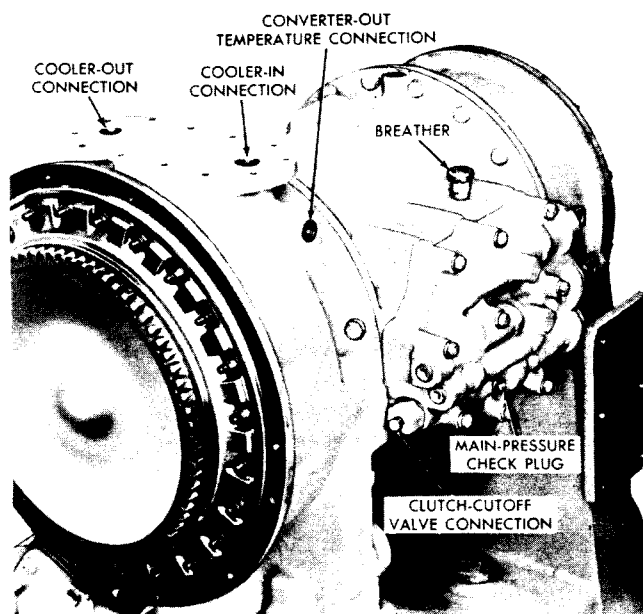

Fig. III-4. CRT 3331-1 transmission—partial left-front view
(1) A pressure gage may be installed on the vehicle instrument panel, to indicate main oil pressure. The gage is connected to the control valve body (fig. III-4). Some earlier gages have a red band covering the 50 to 90 psi (344.8 to 620.5 kPa) segment of the face, and a green band covering the 90 to 150 psi (620.8 to 1,034.2 kPa) segment; later gages
(3) The several control valve body assemblies provided affect the readings which the pressure gage will give. When one of the five earlier model control valve body assemblies is used (refer to sect. II, para 15f, g, h, i, l), the gage will read main pressure at all times — and clutch apply pressure is equal to main pressure at all times. When one of the later model control valve bodies is used (refer to sect. II, para 15f, j, k, m, n), the gage will read main pressure at all times except while the clutch cutoff valve or inching control is in use. When the clutch cutoff valve is acting (vehicle brakes applied), the gage will show no pressure (50 psi (344.7 kPa) on gage). When the inching control valve is acting, the gage will show the clutch apply pressure — this may range from 50 psi (344.7 kPa) (lowest reading on the gage) to full-main pressure (110 to 155 psi) (758.4 to 1,068.7 kPa).
(4) The main pressure check plug is located on the outer side of the control valve body on all transmissions (fig. III-4). The location of the checkpoint in the various systems is shown on each of the foldout hydraulic schematics in the back of the manual.
b. Temperature Gage. An oil temperature gage may be installed on the vehicle instrument panel to indicate converter-out (to cooler oil temperature. The gage sending-unit is installed in a tapped hole at the upper-left side of the torque converter housing (fig. III-4). The gage is marked with a range of 100 to 320°F (37.8 to 160.0°C). The 100 to 250°F (37.8 to 121.1°C) segment has a green band; the 250 to 320°F (121.1 to 160.0°C) seg-
(1) Main pressure check. Main pressure can be checked by the gage on the instrument panel (if so equipped) or by connecting a gage (0 to 250 psi (0 to 1,723.7 kPa) range) to the 1/8-inch NPTF tapped opening on the outer side of the control valve body (fig. III-4). Main pressure at full-throttle stall should be approximately 110 to 135 psi (758.4 to 930.8 kPa) on those transmissions equipped with main-pressure regulator valve bodies 6759543 or 6772431. On transmissions equipped with main-pressure regulator valve bodies 6771309 or 6772433, main pressure should be 135 to 155 psi (930.8 to 1,068.7 kPa).
(2) Converter-out pressure check. Converter-out pressure may be checked at the point provided for attaching the temperature gage sending unit (1/2 NPTF tapped opening on the upper-left side of the converter housing) (fig. III-4). Maximum converter-out pressure at full-throttle top speed is 65 psi (448.2 kPa), with transmission at normal (180-200°F) (82.2-93.3°C) operating temperature.
(3) Lubrication pressure check. On those transmissions equipped with a remote-mounted oil cooler, the lubrication pressure may be checked by connecting a pressure gage into the oil return line which enters the torque converter housing at the right top (fig. III-4). The lubrication oil pressure should be 20 to 25 psi (137.9 to 172.4 kPa) when the transmission is in low range, forward, with the output stalled and the transmission at normal (180-200°F) (82.2-93.3°C) operating temperature and engine running at 1000 rpm.